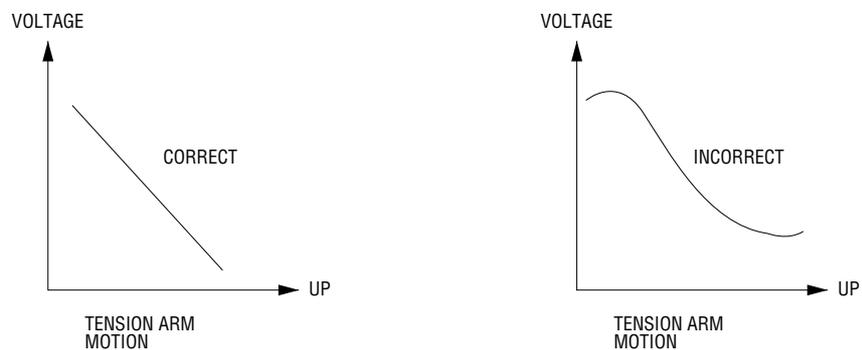

Figure 5-9
6. Slowly move the supply tension arm from the bottom to the top of its travel while observing the voltage on the DC voltmeter. The voltage will decrease as the tension arm is raised. If the voltage reaches its minimum before the tension arm reaches its upper limit, then the tension sensor position must be adjusted. Repeat the observation and adjustment until the sensor voltage is linear with tension arm travel. Refer to **Figure 5-9**.